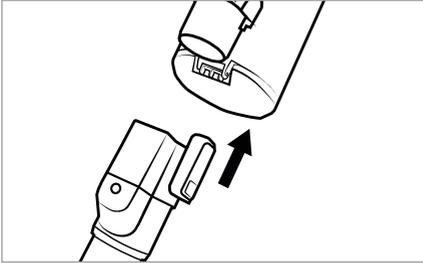

Fig. 1
- 1) Push the suction pipe 23 onto the appliance until it audibly clicks into place (see Fig. 1).